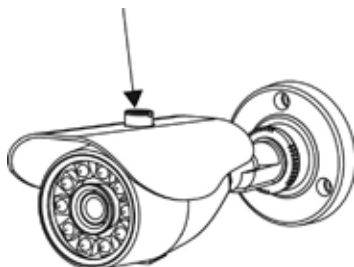

Figure 5-1
1. Open a package, take out the camera, and unscrew the camera shell, as show in Figure 5-1. Unscrew the camera shell